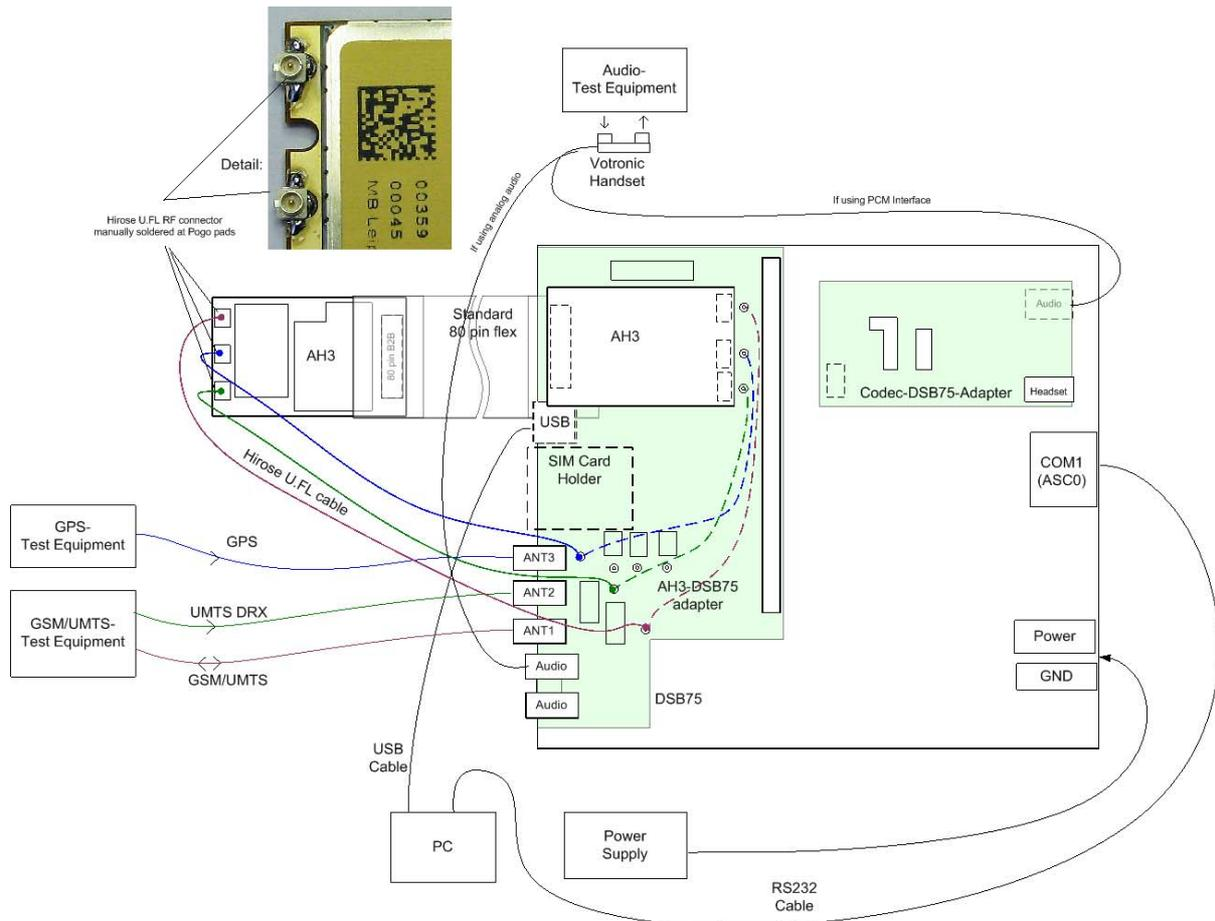

Figure 13: Reference equipment for type approval
1. For RF performance tests a mini-SMT/U.FL to SMA adapter with attached 6dB coaxial attenuator is chosen to connect the module directly to the GSM/UMTS/GPS test equipment instead of employing the SMA antenna connectors on the AH3-US-DSB75 adapter as shown in Figure 13. The following products are recommended: